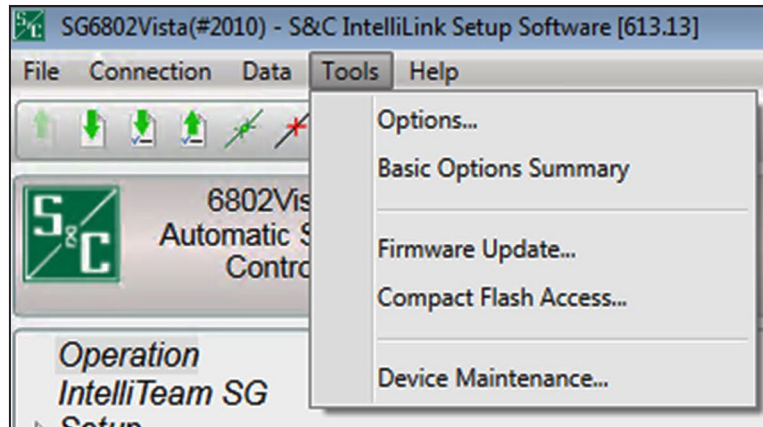

Figure 41. The Tools>Firmware Update menu option.
- STEP 13.** In the **Tools** menu on the menu bar, click on the **Firmware Update** menu item. See Figure 41.